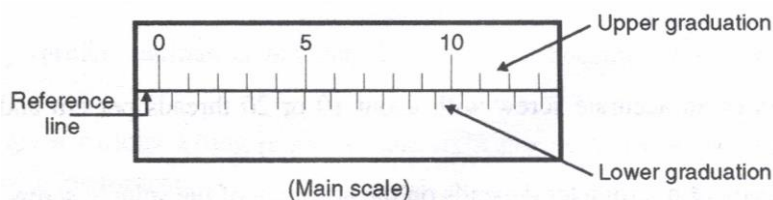

Fig. 11.2.12 : Barrel
- The barrel which is the main scale has fixed graduations as shown in Fig. 11.2.12.